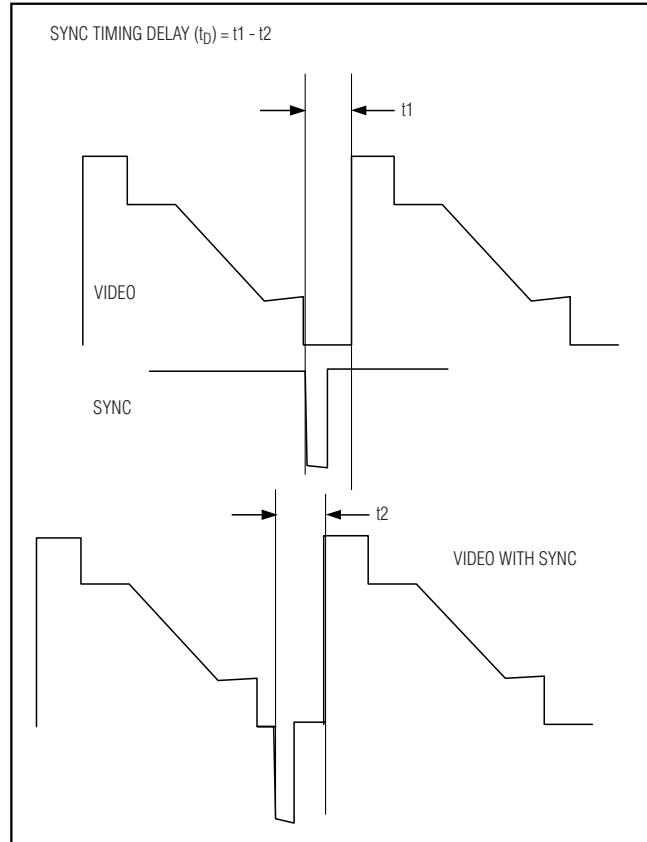

Figure 1. Sync Timing Delay ( $t_D$ ) =  $t_1 - t_2$
**Note 5:** The sync timing error is measured as follows: The input signals are measured from the falling edge of H sync/V sync to the start of active video, called t1. The output signal is then measured from the falling edge of H sync/V sync to the start of active video, called t2. All measurements are at the 50% points as shown in Figure 1.